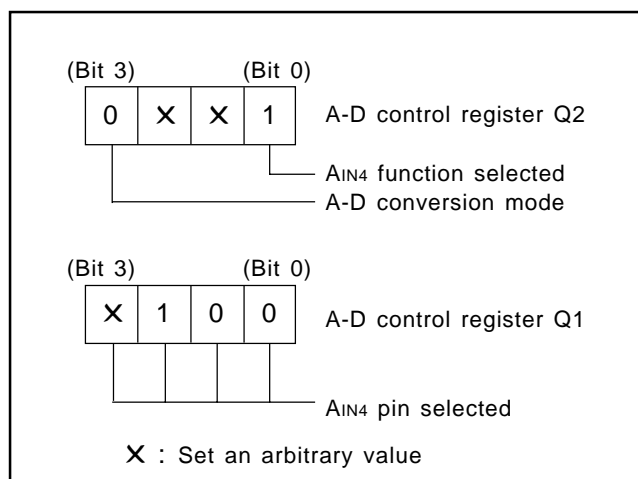

Fig. 28 Setting registers
- ① After selecting the AIN4 pin function with the bit 0 of the register Q2, select AIN4 pin and A-D conversion mode with the register Q1 (refer to Figure 28).
- ② Execute the ADST instruction and start A-D conversion.
- ③ Examine the state of ADF flag with the SNZAD instruction to determine the end of A-D conversion.
- ④ Transfer the low-order 2 bits of converted data to the high-order 2 bits of register A (TALA instruction).
- ⑤ Transfer the contents of register A to  $M(Z, X, Y) = (0, 0, 2)$ .
- ⑥ Transfer the high-order 8 bits of converted data to registers A and B (TABAD instruction).
- ⑦ Transfer the contents of register A to  $M(Z, X, Y) = (0, 0, 1)$ .
- ⑧ Transfer the contents of register B to register A, and then, store into  $M(Z, X, Y) = (0, 0, 0)$ .